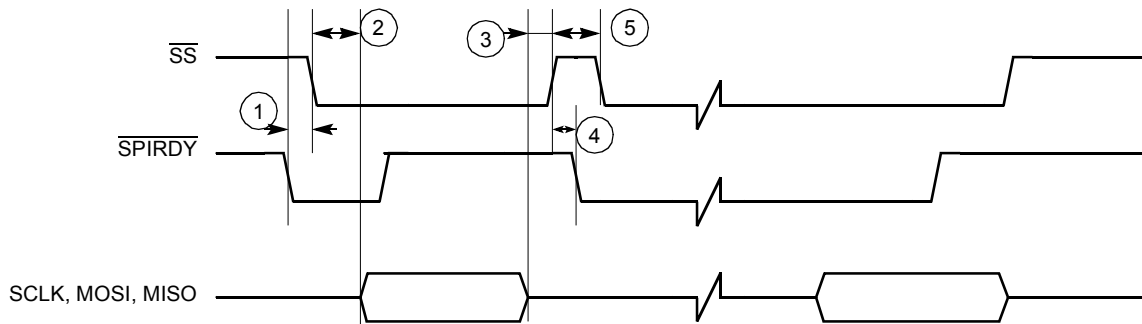
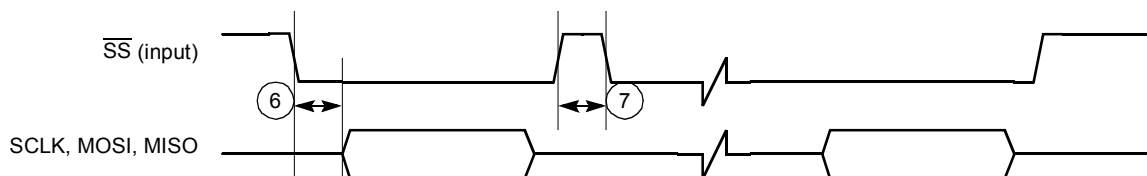

Figure 14. Master CSPI Timing Diagram Using SPI\_RDY Edge Trigger
Figure 18. Slave CSPI Timing Diagram FIFO Advanced by SS Rising Edge
**Table 19. Timing Parameters for Figure 14 through Figure 18**